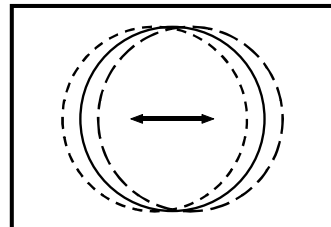

Fig. 9
- f) Adjust the vertical shift to obtain picture centring (Fig. 9).